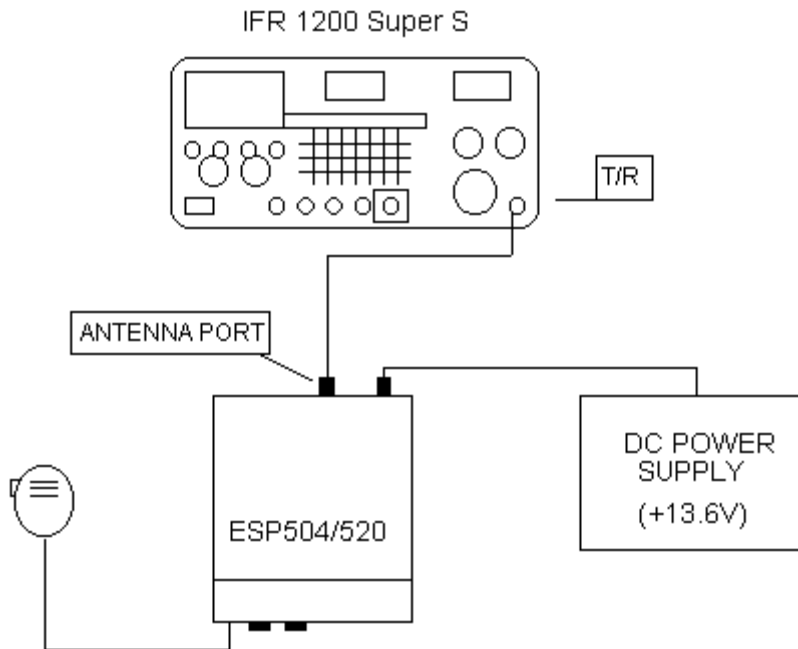

Figure 2 Transmitter Test Setup
- a. Set up the equipment as shown in Figure 2.